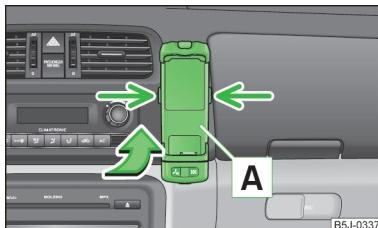

Fig. 99
- First push adapter [A] in the direction of the arrow » Fig. 99 into the mount as far as the stop. Then press the adapter slightly downwards, until it locks securely into position.
- Press the side locks on the mount » Fig. 99 at the same time and remove the adapter with the mobile phone.